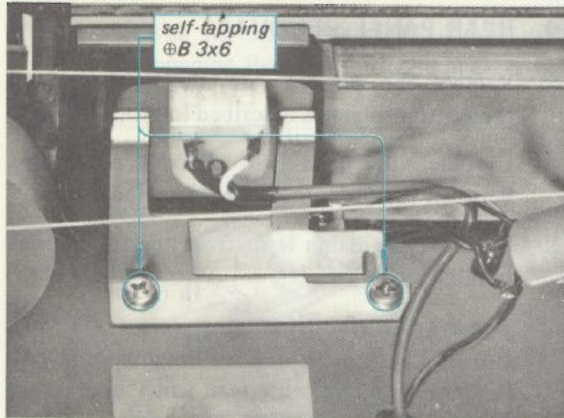

Fig. 2-12. Meter holder removal
1. Remove the two self-tapping screws (\oplus B 3x6) securing the meter holder to the chassis as shown in Fig. 2-12.
3. Remove the two self-tapping screws (\oplus B 3x6) securing the meter holder to the chassis as shown in Fig. 2-12.